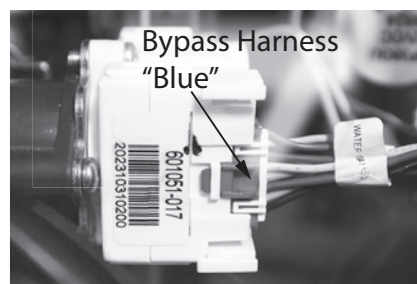

Figure 50 - Bypass valve harness location
- 20** Locate the blue wiring harness labeled "WATER VALVE" at the bypass module and disconnect it. See Figure 50.